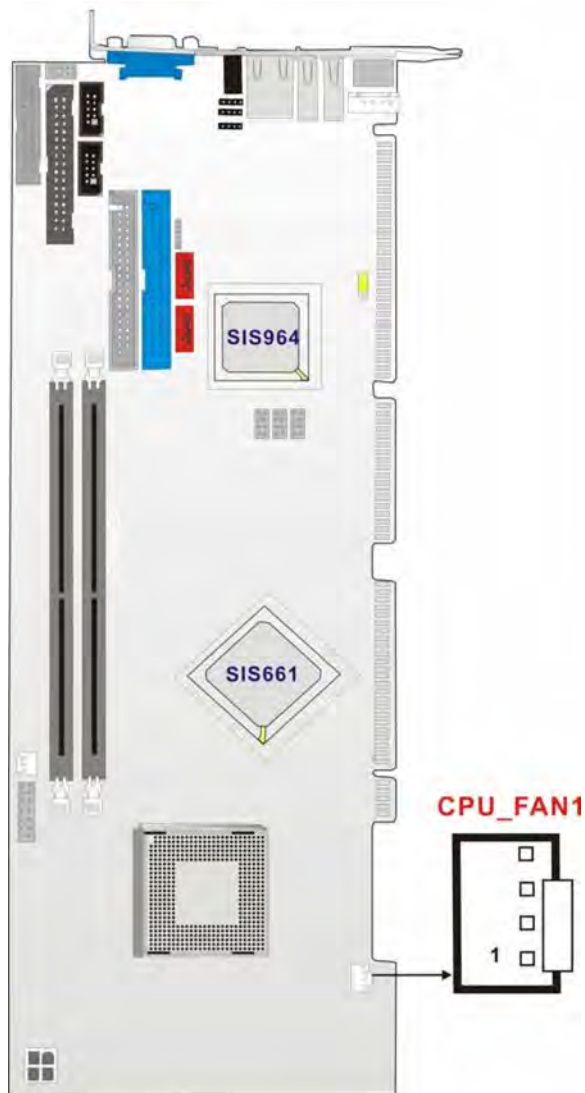

Figure 3-7: Cooling Fan Connector Locations
- CN Location:** See Figure 3-7